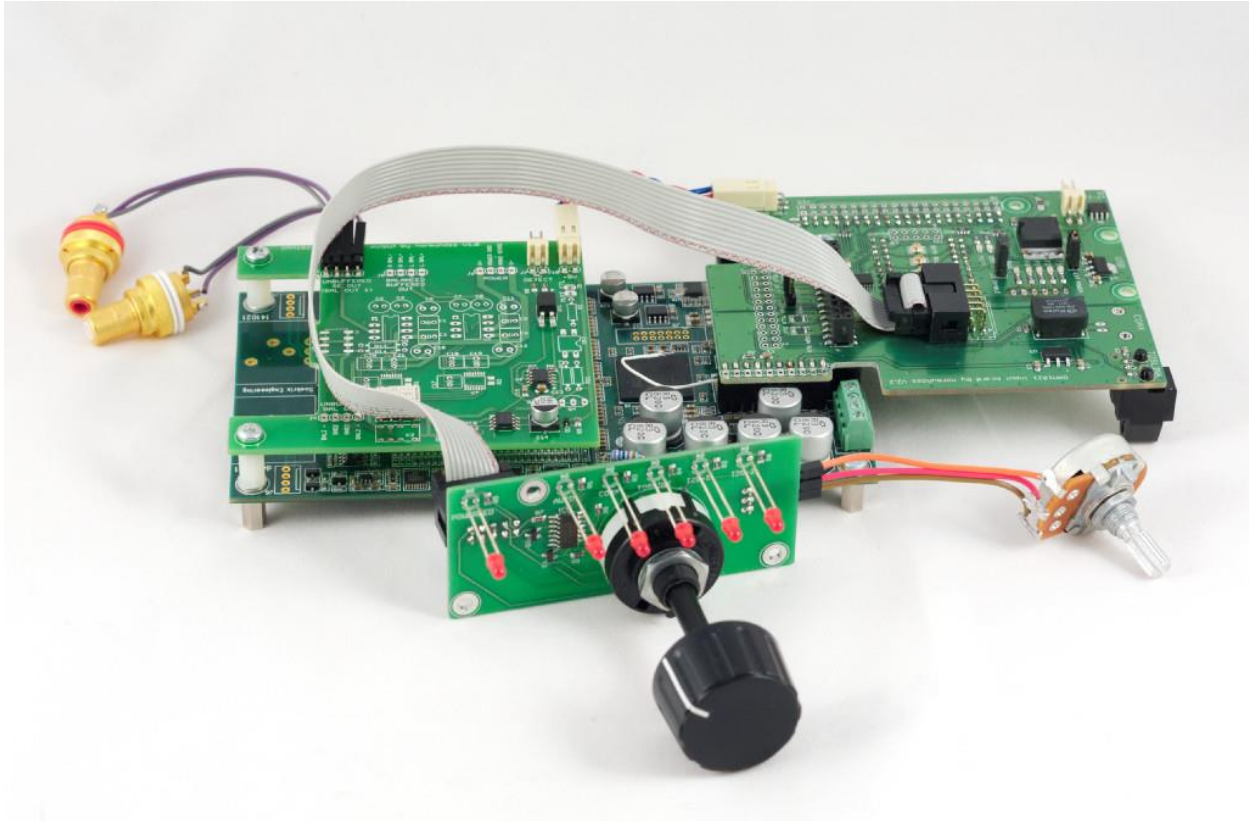
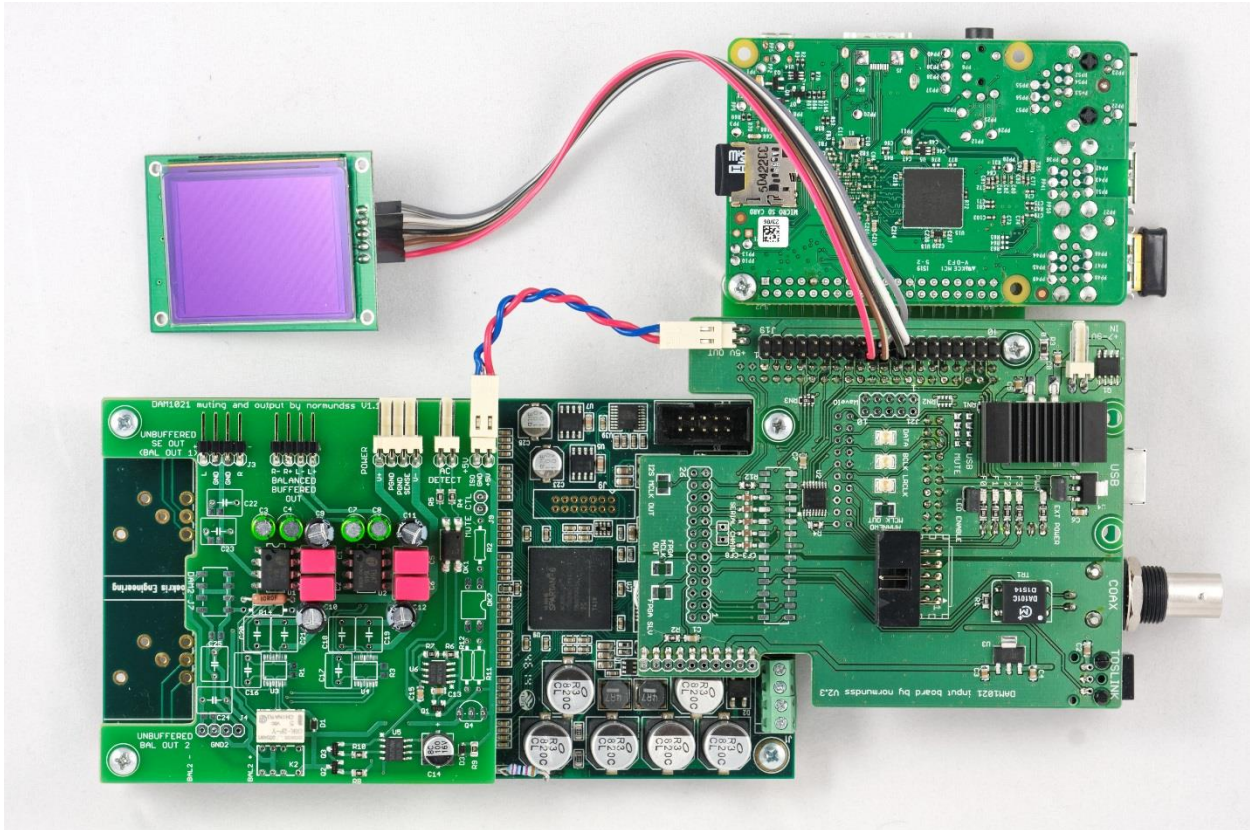

Figure 12 Basic build with muting and switch modules
Figure 14 Example build with Raspberry Pi 2 and SE-balanced output buffers
5. Wire the volume pot. "dupont wires" with female connectors can be conveniently used here. They are widely available on Ebay. Cut off connectors on one end and solder the wires to volume pot. See Figure 12 for an example.
Note that the input board in Figure 12 has the optional balanced connectors installed. Figure 14 shows an input board without the balanced connectors.
Figure 14 shows a build with Raspberry Pi 2 and muting board with optional SE-to-balanced output buffers with THAT1646 drivers. This buffer has been built with 10uF non-polar capacitors included to reduce output common mode DC offset. These capacitors can be replaced by wire jumpers if offset reduction is not needed. For more details, see THAT1646 datasheet http://www.thatcorp.com/datashts/THAT_1606-1646_Datasheet.pdf
See Figure 14 for a build example.